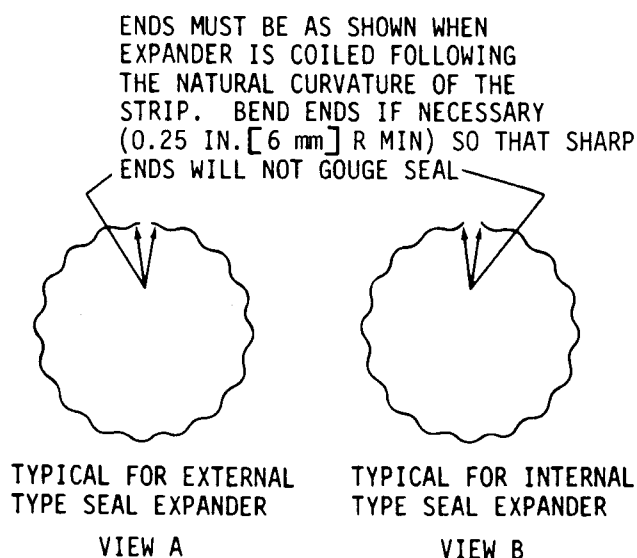

Fig. 6-19. Typical expanders for teflon sealrings
(1) If the retainer plugs and balls were removed, replace them in accordance with the instructions contained in the parts kit. (See Parts Catalog SA 1248.)
(2) For pistons that use an expander with the sealring, install the expander into the groove in the piston. Make sure the free ends of the expander turn away from the sealring (fig. 6-19). The ends of some expanders may require additional bending to ensure they turn toward the bottom of the groove.